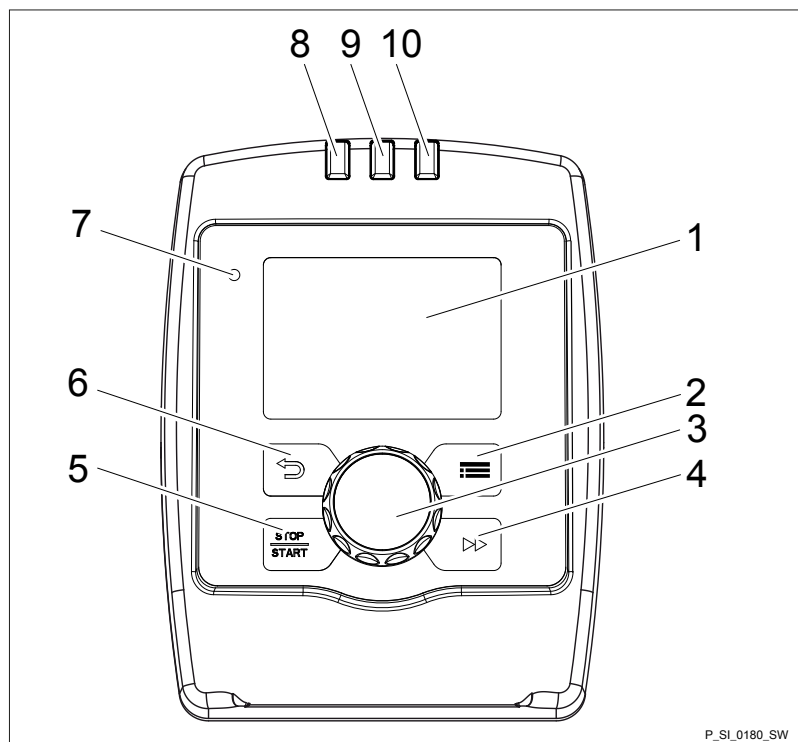

Fig. 4: Control elements for HMI Sigma X Control type
- 8 LEDs (as Fig. 4) and CAN bus status LED (external)